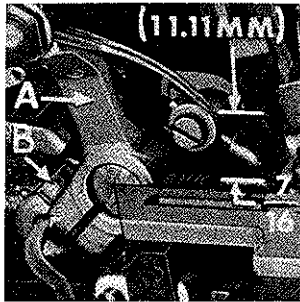

Fig. 3
With throat plate assembled in position needles should center in the front end of needle slot. When needles are at high position, the needle points should be set  $\frac{7}{16}$  inch (11.11 mm) above the throat plate (Fig. 3) for Style 39500 RB. For Styles 39500 RC-045 and RC-060 the needle points should be set  $\frac{15}{32}$  inch (11.91 mm) above the throat plate. To align needles or set the height above throat plate, move needle driving arm (A, Fig. 3) by loosening clamp screw (B). After needles have been set properly, tighten screw (B) and remove throat plate.